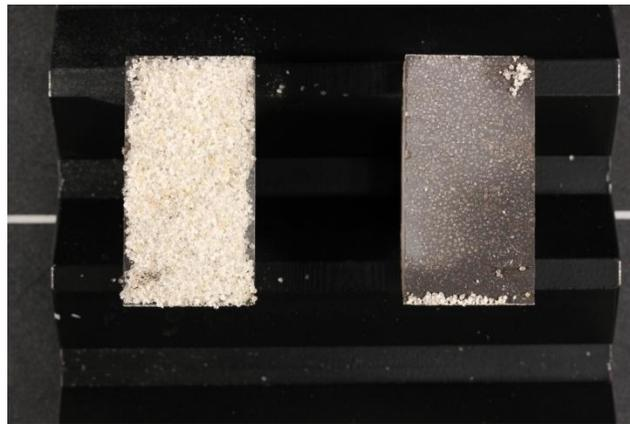
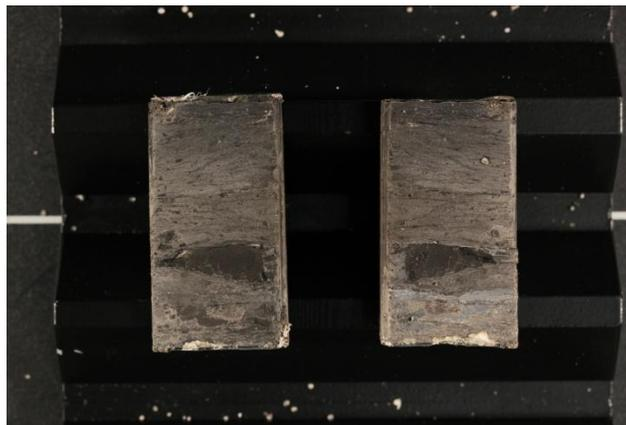

Figure 1.8 Post-test photograph of prepped test sample
Figure 1.9 Post-test photograph of Natural Asperity sample
12. Post Test Photograph – After the test is completed and the sample is removed from the vessel, carefully cut the Teflon tubing, tape, and place the samples on the copy stand, with the labeled left side on the left and the right on the right side (Figure 1.8) (Figure 1.9). Set the camera to the proper exposure and aperture settings. Shoot the picture. After the photo, carefully place the opened sample in an aluminum tray and take sample and the screens, to the Keyence microscope. Preserve the proppant from the surface, as it will be analyzed for the effects of crushing.